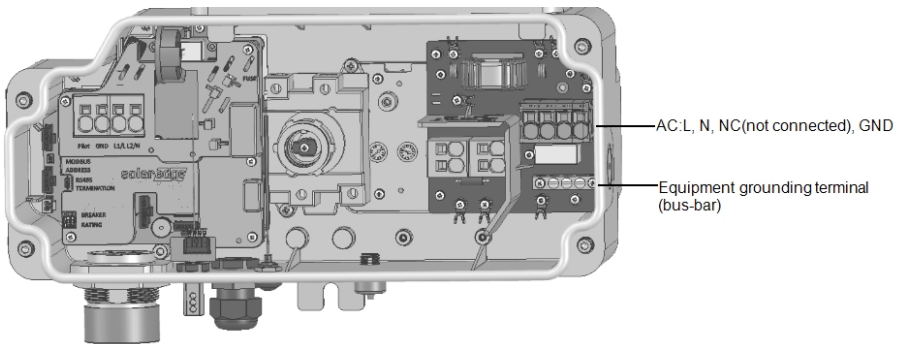

Figure 14: Inside the Connection Unit
4. Insert the grounding cable to the equipment grounding bus-bar (see *Figure 14*).